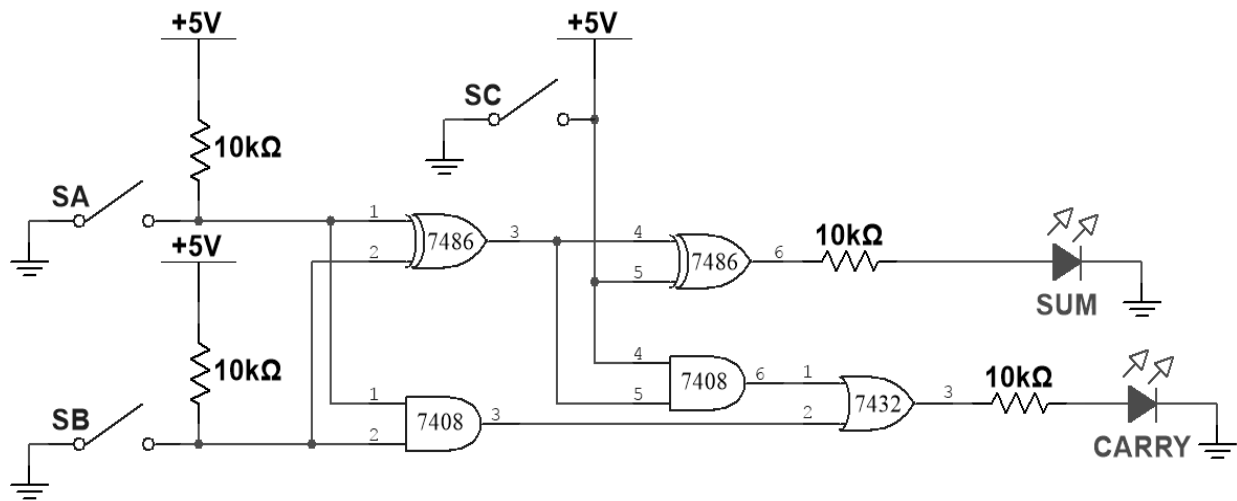

Figure 2.6. Experimental Full Adder
1. Connect the *full-adder* circuit (figure 2.6).